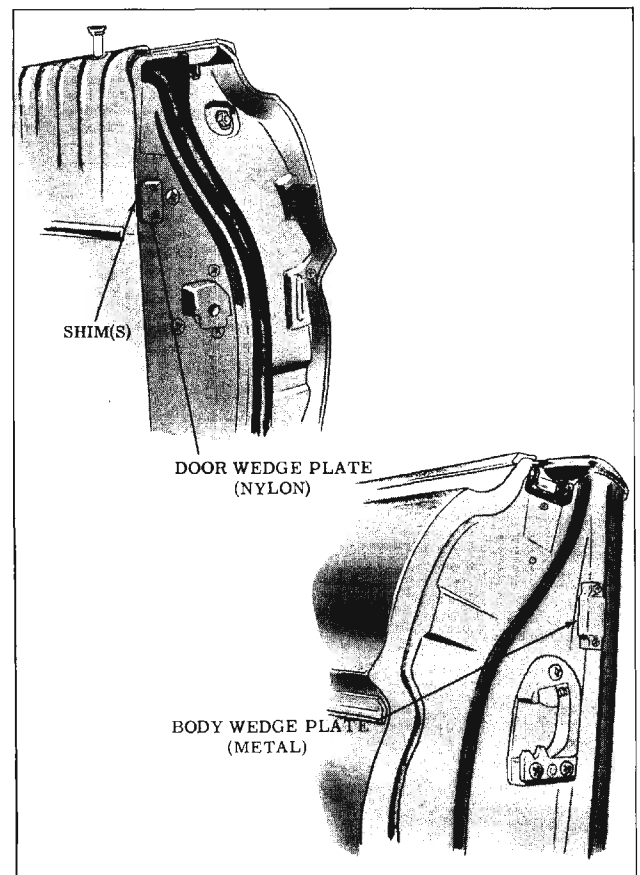

Fig. 16-29 Door Wedge Plates
1. Remove two screws securing wedge plate to body panel and remove wedge plate. (Fig. 16-29)